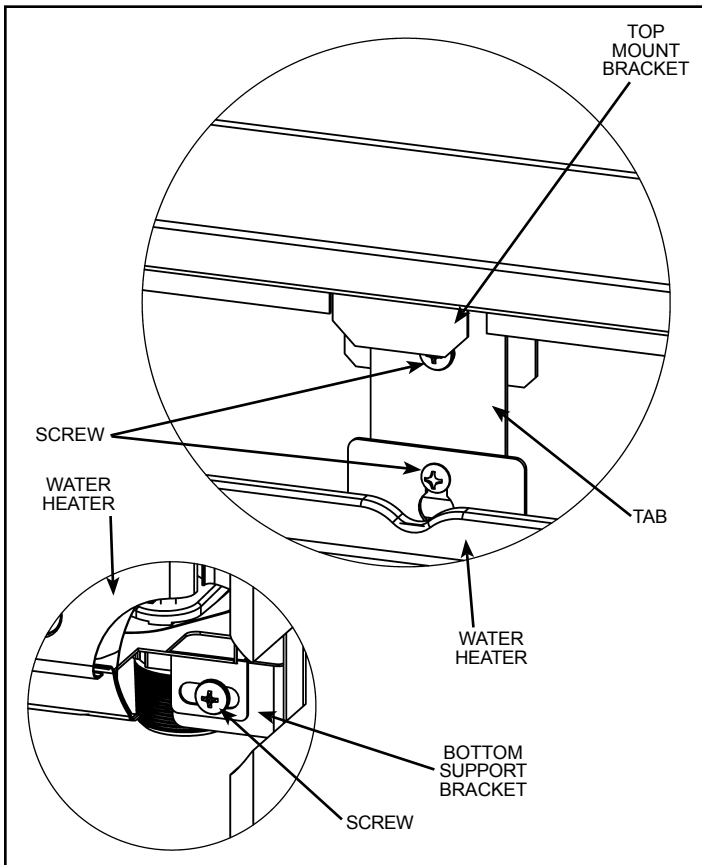
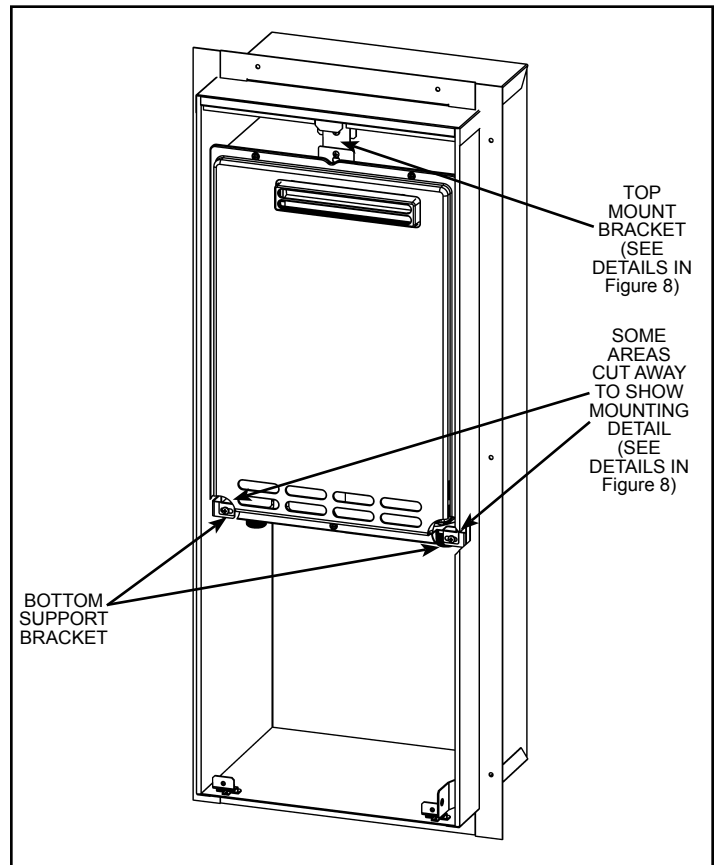

Figure 8.
Figure 10.
- b. For 110(U), 310(U), 510(U): Use screw (Item #4) to secure mounting tab (Item #8) to the top mounting bracket. Use screws (Item #6) to secure the heater to the mounting tab as shown in Figure 8. Use screws (Item #6) to secure the heater to the bottom support brackets (see Figure 8 and Figure 10)